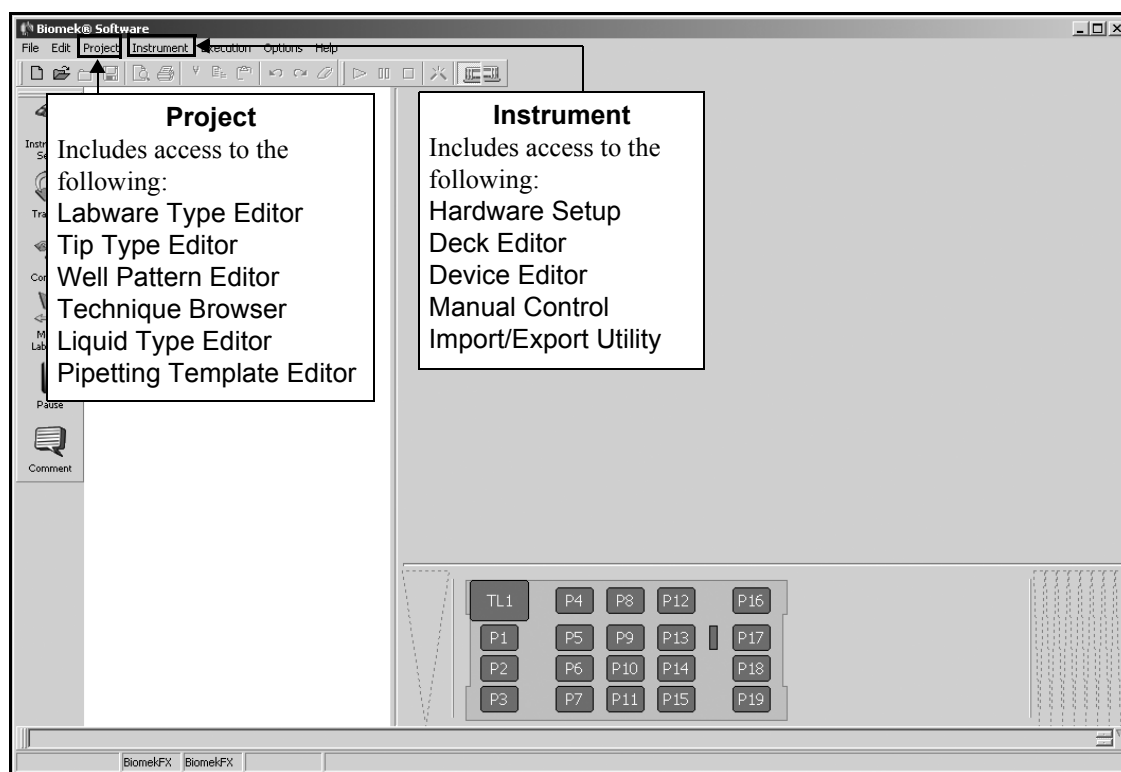

Figure 3-1. Biomek main editor
The editors are accessed from the **Project** or **Instrument** menus located on the toolbar of the Biomek main editor (Figure 3-1).
- Project menu (Figure 3-1)
- Instrument menu (Figure 3-1)
Following is a brief description of the editors available from the two menus displayed in Figure 3-1. If you would like to learn more about a specific editor, refer to the referenced chapter for more information.
The editors on the Project menu (Figure 3-1) allow project items to be created, copied, revised, and renamed. They include the following:
The editors on the Instrument menu (Figure 3-1) allow instrument configuration to be changed. They include the following: